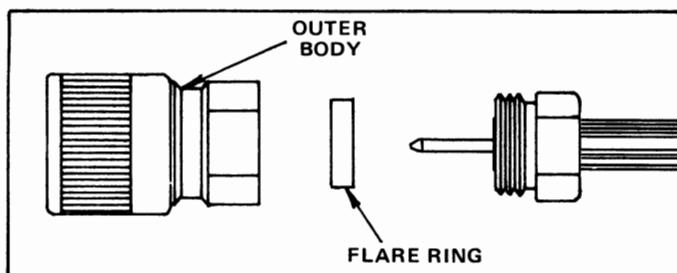

FIGURE 5
STEP 5. Assemble flare ring and outer body to clamping nut. See Figure 5. Tighten to compress flared tabs against clamping nut. Turn outer body only; do not turn clamping nut. Remove outer body to inspect flare for regularity and flatness.